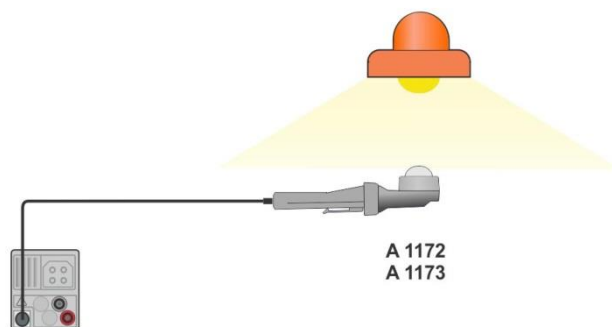

Figure 7.99: LUXmeter probe positioning
- › Take the position of LUXmeter probe, see **Figure 7.99**.